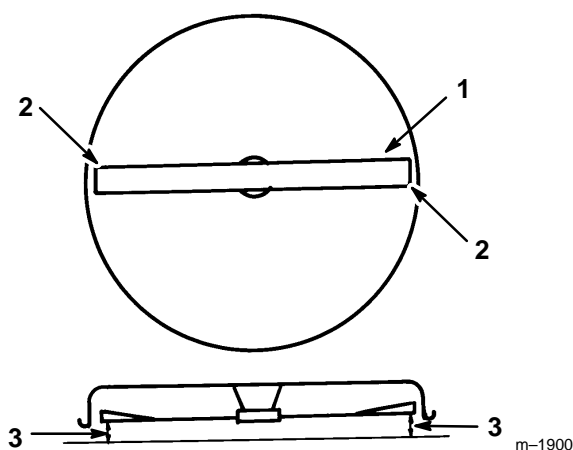

Figure 46
4. Carefully rotate blade(s) side to side (Fig. 46). Measure between the outside cutting edges and the flat surface (Fig. 46). If both measurements are not within $\frac{3}{16}$ " (5 mm), an adjustment is required; refer to steps 5 and 6.